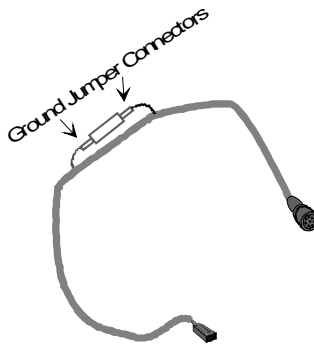

Figure A-2. DID Adapter Cable
2. Locate the power supply, the mains cord set, and the DID adapter cable shown in Figure A-2.
4. Ensure that the ground jumper connectors (shown in Figure A-2) on the DID adapter cable are mated. This connects the positive side of the DID power supply output to earth as required by most telecom authorities. If the mains supply used does not provide a path to earth, a separate ground will need to be provided to the black lead in the ground jumper connector.
If the wall socket is not grounded, use an adapter to ground the power supply. Be sure to follow the instructions supplied with the adapter to connect to ground. Alternatively, plug a separate earth ground into the female side of the ground jumper connector (attached to the black wire) on the DID adapter cable (see Figure A-2).